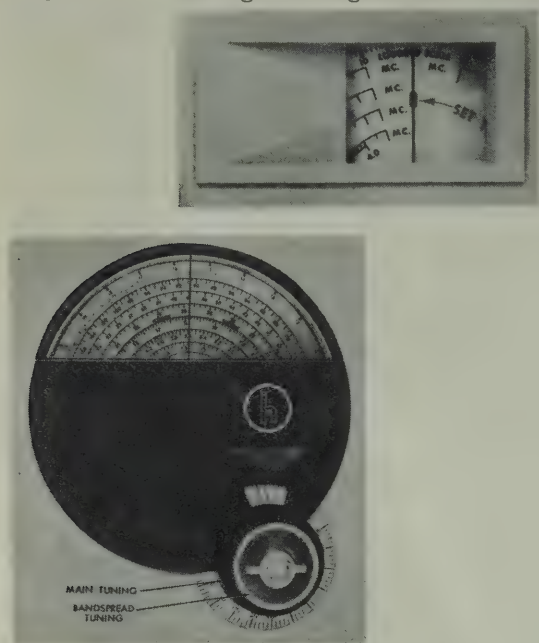
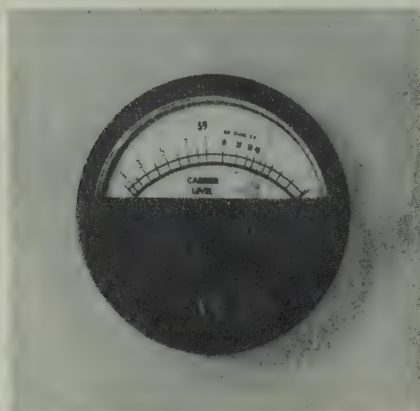

Figure 6.
Figure 7. View showing Carrier Meter
5. Set the bandspread (fine tuning) dial to 0 (See Fig. 6) by turning the outer or metal knob on the tuning assembly. If the bandspread dial doesn't move, operate the locking knob (See Fig. 6) by turning to the right to unlock the bandspread dial. After setting the bandspread dial to zero, again turn the locking knob to the right to lock the bandspread.
6. Now tune in stations by tuning with the main control knob. (See Fig. 6.) As the station is tuned in, the carrier meter needle (See Fig. 7) will move from the left side of the scale to the
8. The frequency calibration on the main tuning dial for the broadcast band is shown on the scale at the bottom of the dial. (See Fig. 6.) This scale as all other scales is calibrated in mc (megacycles) and tunes over the broadcast band from .54 to 1.62 mc (in kilocycles 540 to 1620 kc). For example, radio station WGN Chicago is 720 kc or .72 mc. Just divide kc by 1000 to get mc.